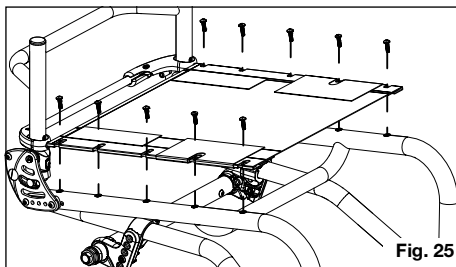

Fig. 25
2. Loosen the Phillips head screws (Fig. 25, 26) on the same side of the seat upholstery as the tension adjustable flap.
6. Retighten the Phillips head screws (Fig. 25, 26).
1. Remove the 5 mm Phillips head screws (Fig. 25, 26) from the seat rails on each side of the frame and set aside.
5. Replace the 5 mm Phillips head screws (Fig. 25, 26) by partially threading into place. Once all screws have been started, go back and tighten to secure.